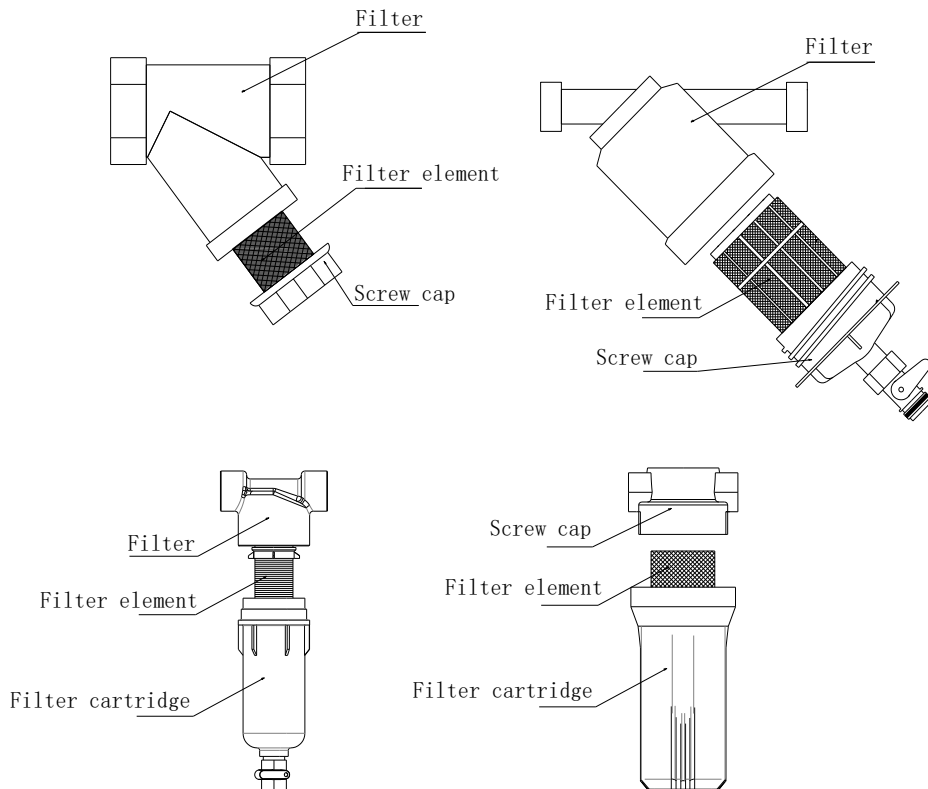

Fig. 9
- c. Check and clean the internal filter (see Fig.9 Example filter).